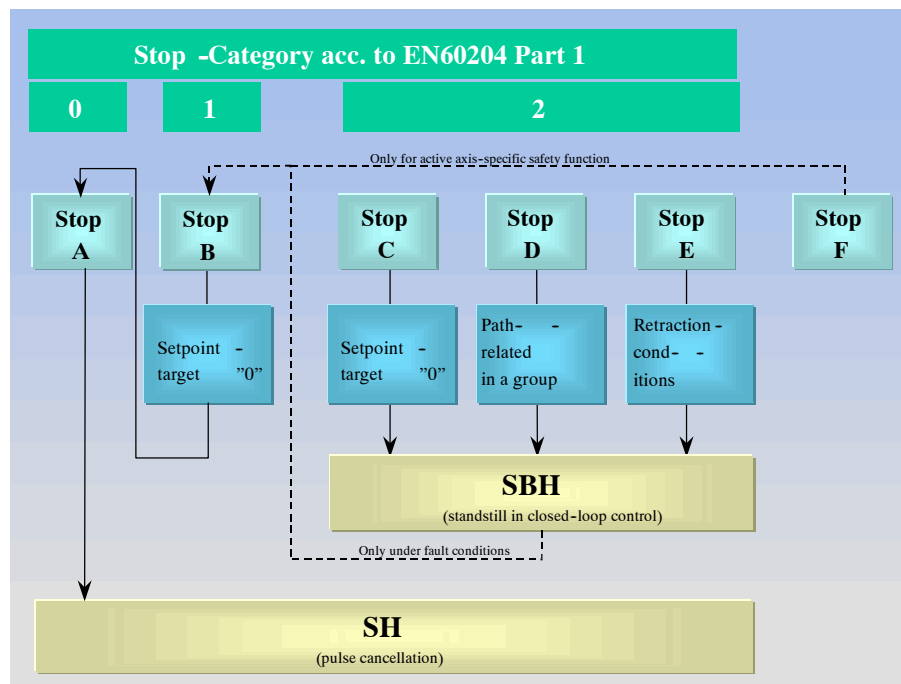

Figure 6-5 Stop responses, safe operating stop (SBH), safe standstill (SH)
Fig. 6-5 shows the relationship between the stop responses and the safe operating stop (SBH) or the safe standstill (SH).